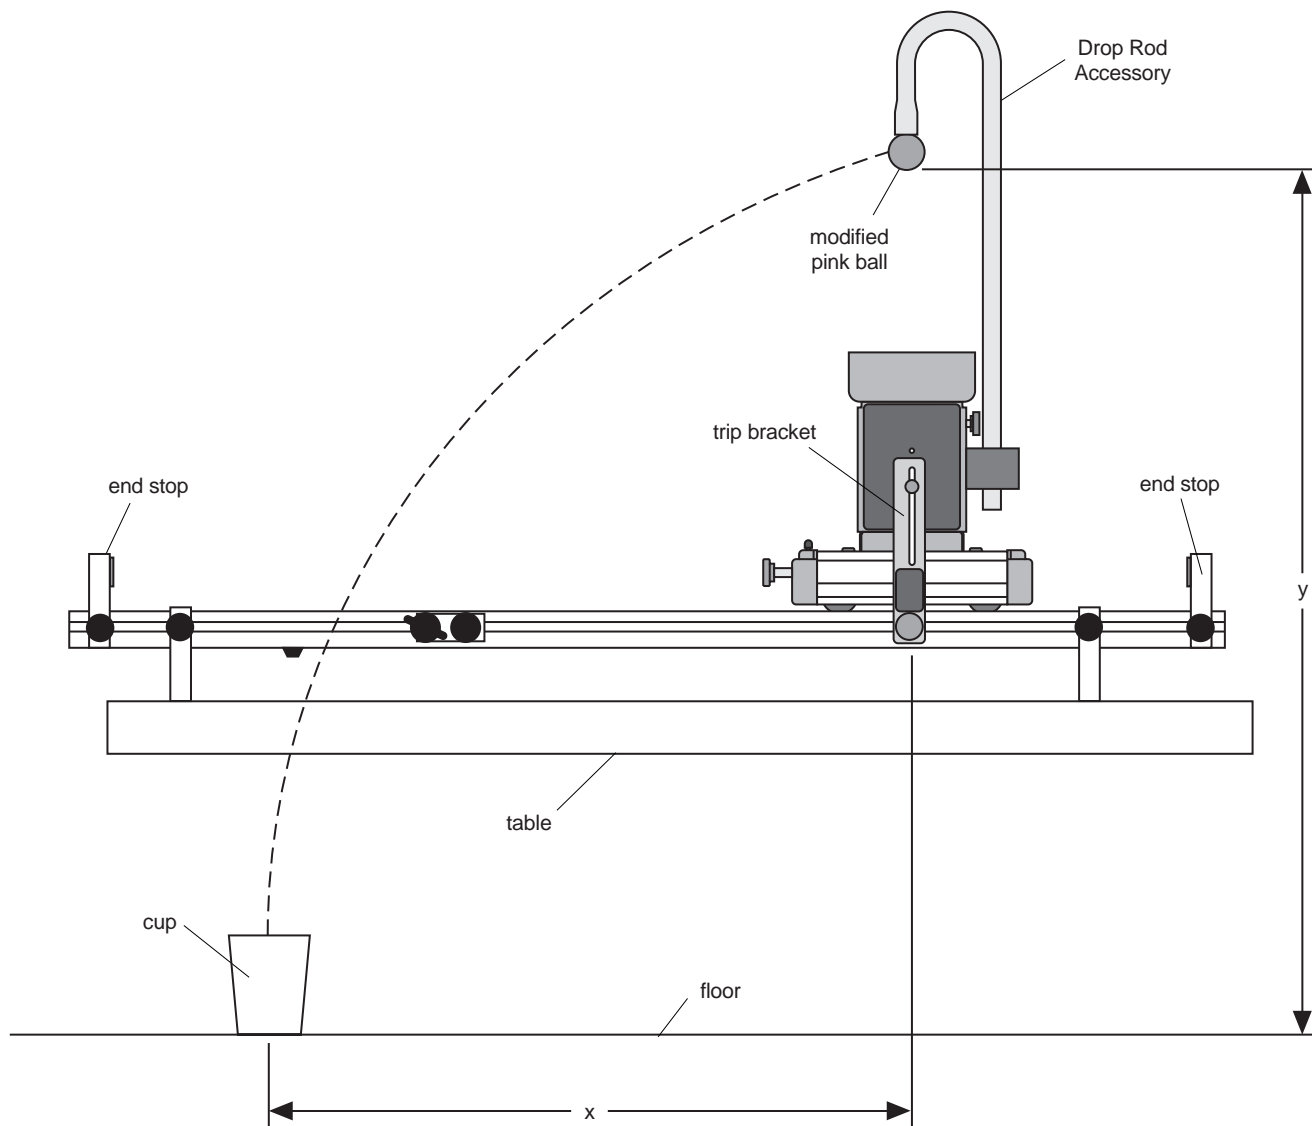

Figure 9.2: Projectile Motion For Bombing Run.
- ⑨ Hang the ball on the drop rod and measure the distance, y , from the bottom of the ball down to the floor. See Figure 9.2.
- ⑩ The vertical distance, y , that the ball falls is given by